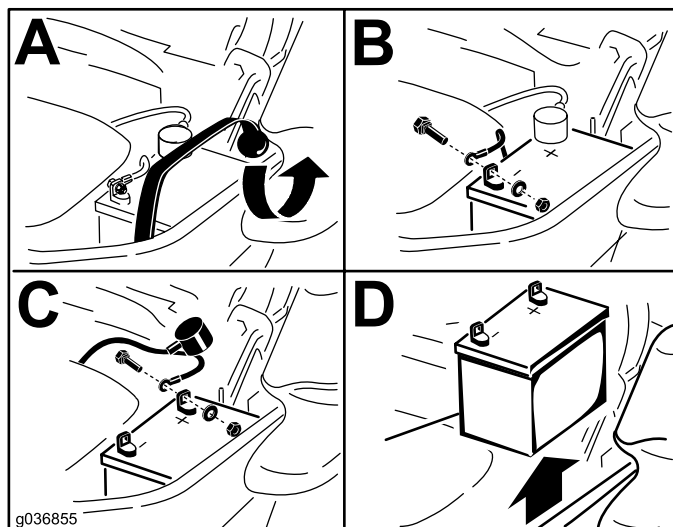

Figure 45
3. Remove the battery as shown in Figure 45.
1. Position the battery in the tray with the terminal posts opposite from the hydraulic tank (Figure 45).
4. Secure the cables with 2 bolts, 2 washers, and 2 locknuts (Figure 45).
6. Secure the battery with the rubber strap (Figure 45).